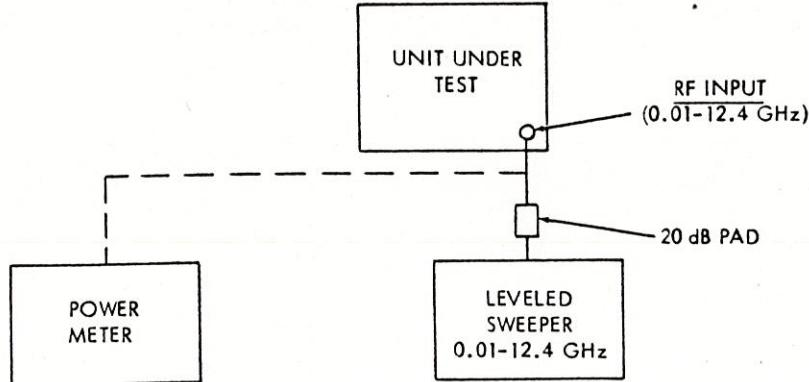

Figure 6-4. Frequency Response
(1) General
- (b) Connect sweepers (Item 4) and power meter (Item 5) as shown in figure 6-4. Use external 20 dB pad and set signal source level to obtain -20 to -30 dBm level incident to RF INPUT connector.